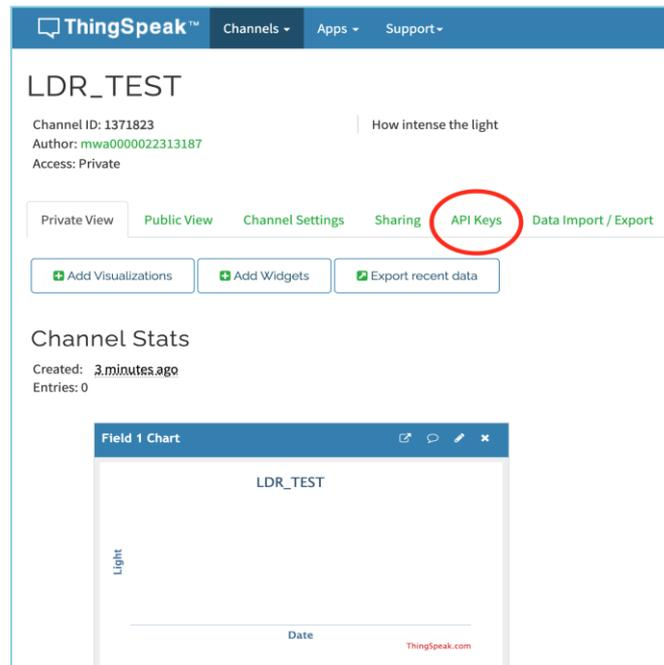

Figure B3
20. Click the API Keys tab as shown in Figure B3.